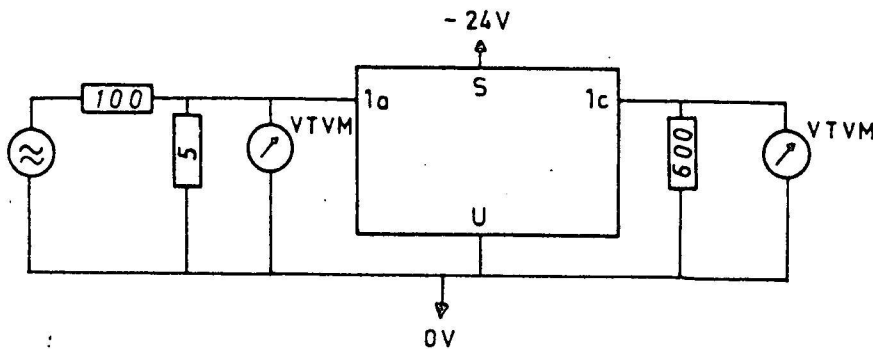

Fig. 51
- . Apply a signal of 139 mV/1000 Hz (-15 dB) to points 1a and U (see Fig.51).